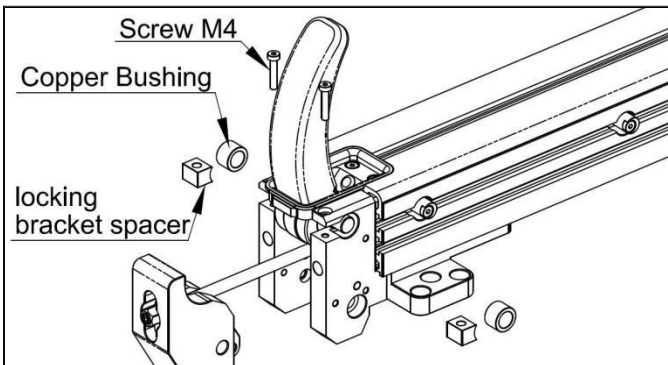

Fig. 14-7
6. As shown in Fig. 14-7, remove two M4 screws, two locking bracket spacers, and two copper bushings.